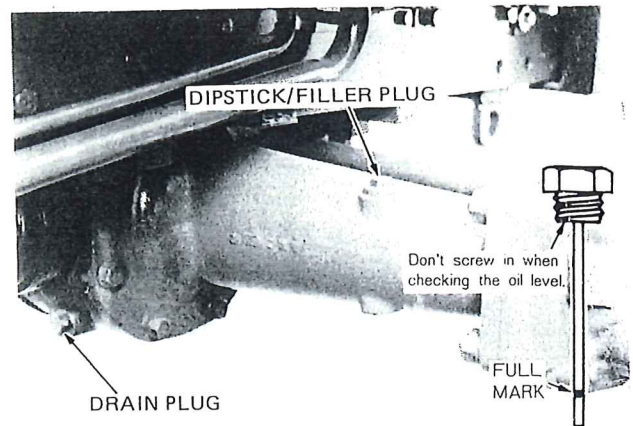
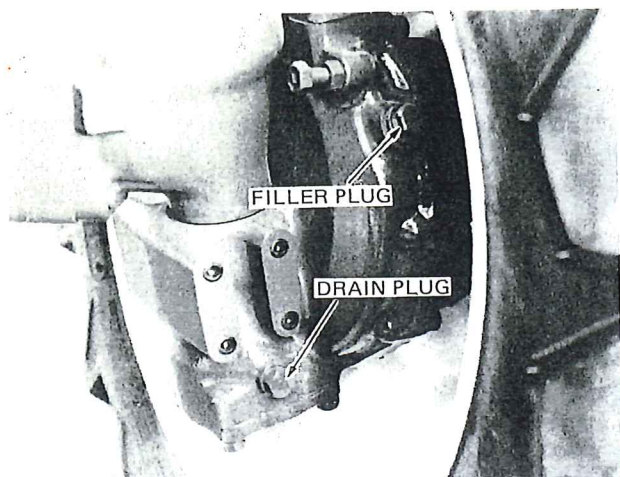

Figure 50 — Front Axle Differential Oil Level Dipstick/ Filler Plug and Drain Plug
Figure 51 — Final Reduction Gear Case Fill and Drain Plugs
1. With the tractor standing level and the engine off, check the oil level with the dipstick, Figure 50.
1. With the oil at normal operating temperature, drain the oil by removing the front axle differential, Figure 50, and final reduction gear case drain plugs, Figure 51. Reinstall the plugs after the oil has drained. Discard the oil.
2. Remove the filler plugs at each final reduction gear case, Figure 51 and fill with new oil as specified, page 26. The oil should be level with the bottom of the plug opening. Install the filler plug.
3. Remove the filler plug on the top, right side of axle housing, Figure 50, and fill with new oil of the type specified, page 26.